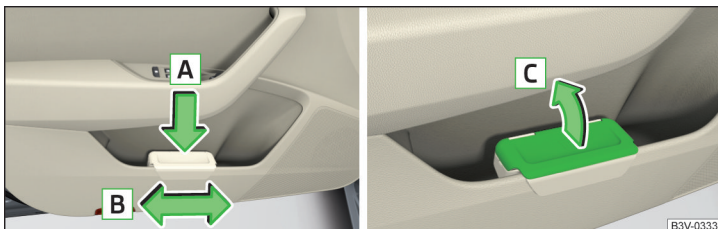

Fig. 87 Waste container: inserting and moving / opening
» Fig. 87.
- Lift the cover in the direction **C**» Fig. 87.